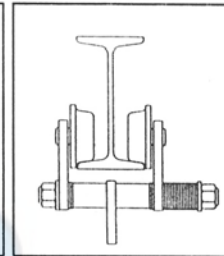

FIGURE 2
2. Use adjusting collar to adjust the Trolley range to fit I-Beam.(FIGURE 2 & 3)